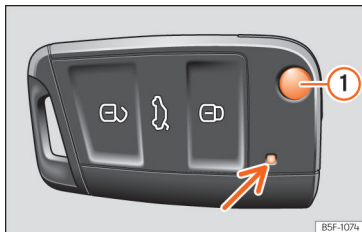
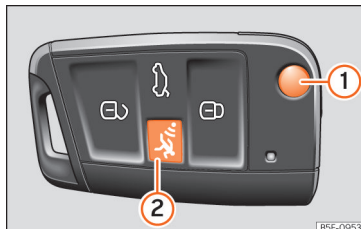

Fig. 136 Vehicle key
Fig. 137 Vehicle key with alarm button.
Read the additional information carefully » **Fig. 136** **page 39**.
When a button on the vehicle key is pressed, the control lamp flashes »» Fig. 136 (arrow) once briefly, but if the button is held down for
Press button ① »» Fig. 136 or »» Fig. 137 to unlock and unfold the key shaft.
- If the buttons of the vehicle key are pressed »» Fig. 136 or »» Fig. 137 or one of the central locking buttons »» page 130 is pressed repeatedly in short succession, the central locking briefly disconnects as pro-